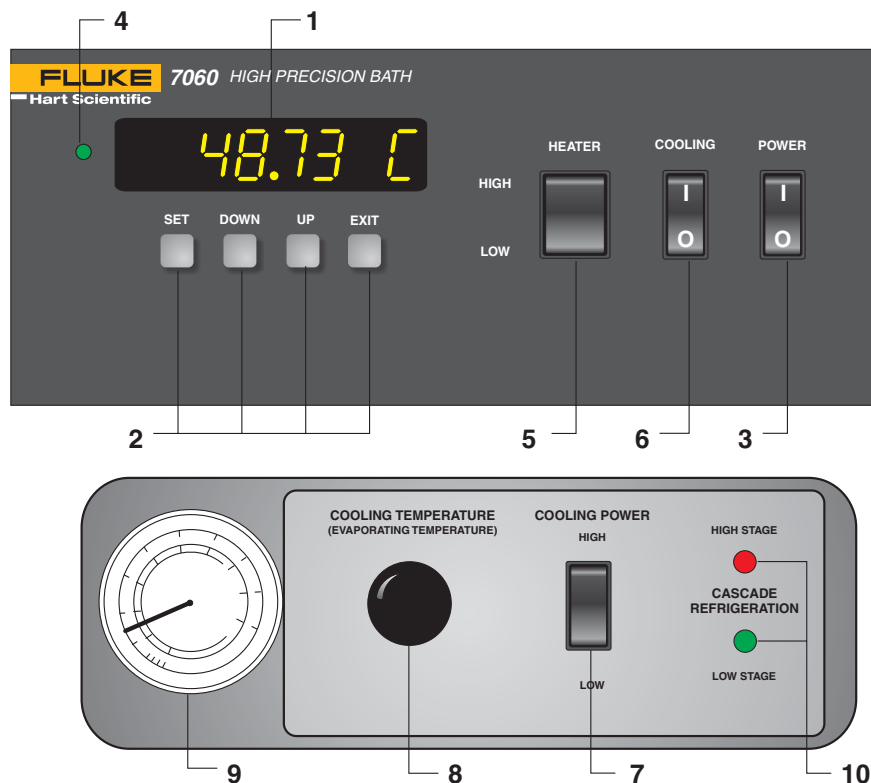

Figure 3 Front Panel
The following controls and indicators are present on the controller front panel (see Figure 3 below): (1) the digital LED display, (2) the control buttons, (3) the bath on/off power switch, (4) the control indicator light, (5) the heater power switch, and (6) the cooling power switch.
The front panel refrigeration control area has four features (see Figure 3 bottom): 7) the cooling power switch, 8) the cooling temperature regulating valve, 9) the cooling temperature/pressure gauge, and 10) cascade refrigeration indicator lights.